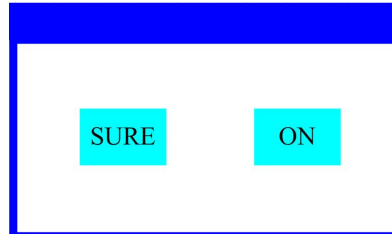

Figure 5 Dialog of confirm
- When the parameter is a key item, click corresponding item, a dialog shown in Figure 5 will been popup ask for the confirm. Click 'sure' to confirm.